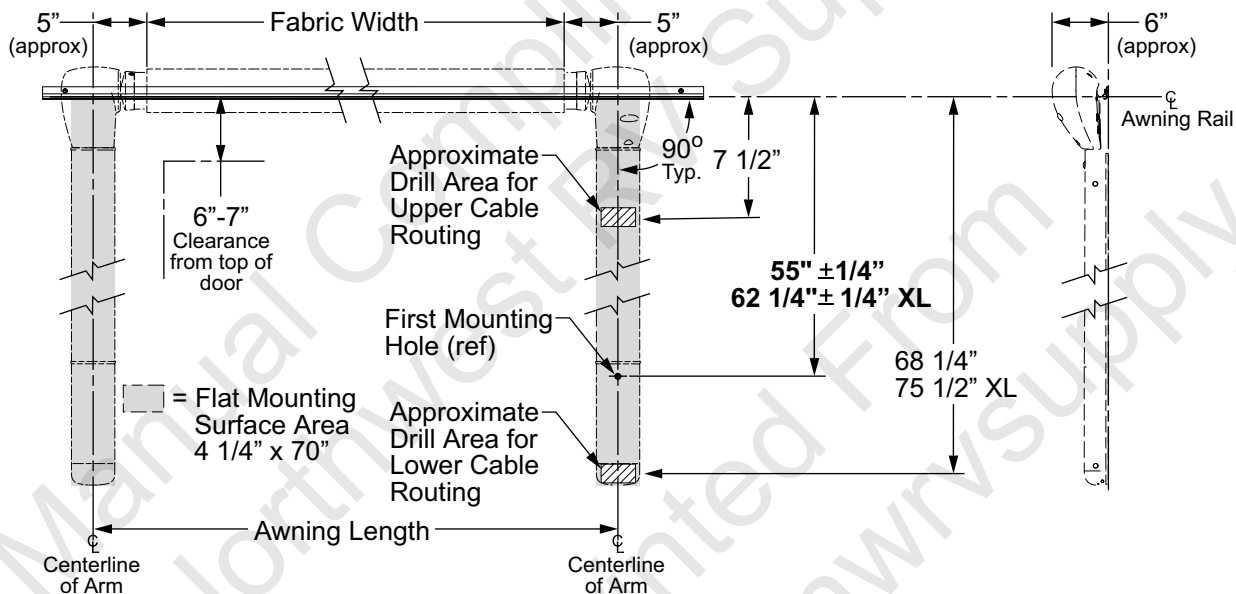

Figure 4. General Layout and Installation.
5. (Refer to Figures 4 and 5) Align the first mounting hole in the motorized arm with the location marked in step 2. The arm assembly must be perpendicular to the awning rail.
10. Check the alignment; the arm assembly must be perpendicular to the roller assembly. When the alignment is correct, drill and attach the arm at the second mounting hole (shown in Figure 4) using a 5/32" drill bit and a 1/4 x 1-1/2" lag screw.